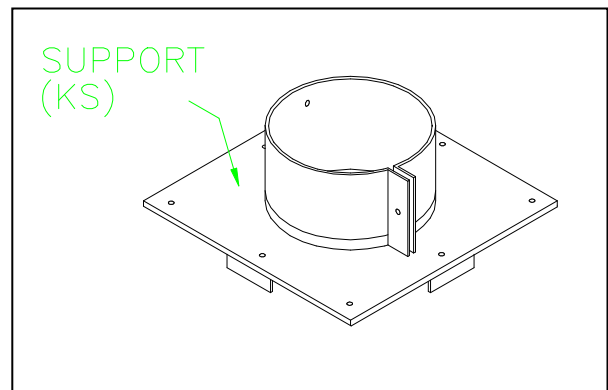

Figure 2
3. From above, place the support (KS) centered with the hole on the floor (Fig. 2 & 3).